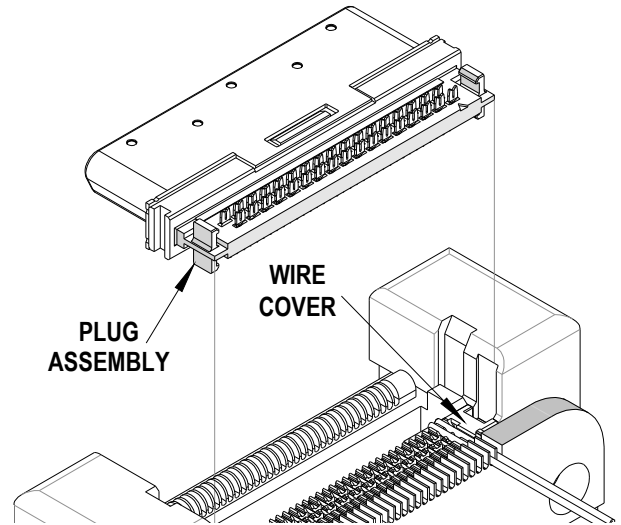

Figure 2-6
12. Load the plug into the Plug Nest making sure the appropriate side of the plug is facing down. See Figure 2-6.